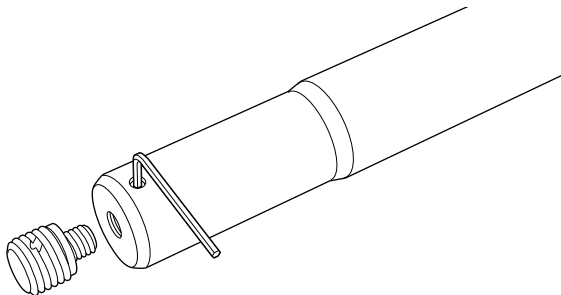

Figure 13: Pole with M20 Slug Removed
- Tighten the set screws enough to ensure they will remain in the pole (Figure 13).